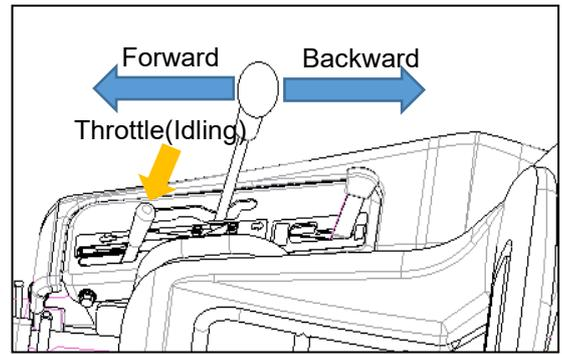

Figure 25
- When tilting the speed lever, throttle must be kept idling. (Figure 25)